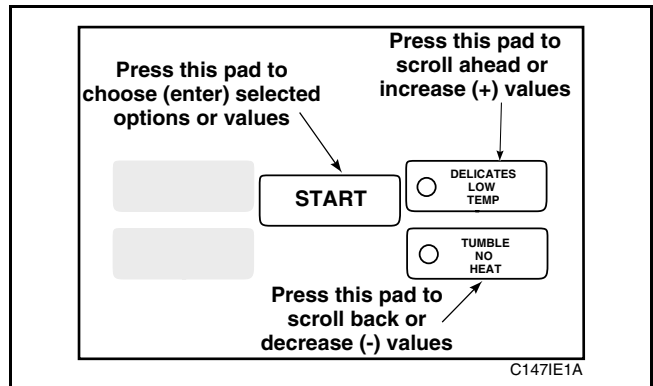

Figure 48
- Press the LOW TEMP (+) pad or the NO HEAT (-) pad to increase or decrease the current number of minutes allowed in Cool Down, *Figure 48*.